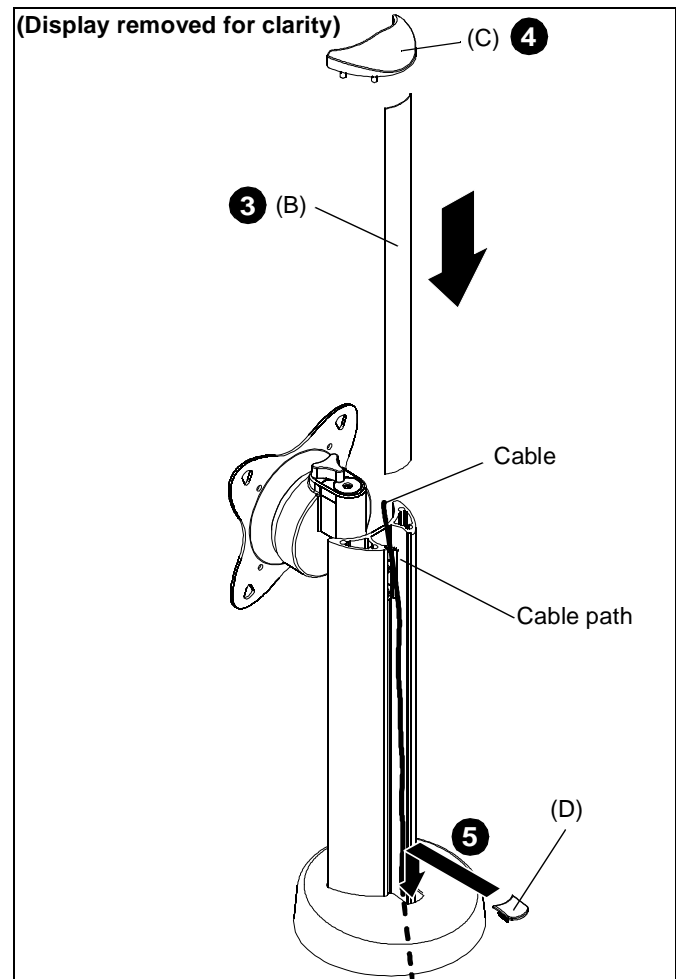

Figure 6
3. Add wire cover (B) to back of STS1 by sliding it into the STS1 through the top. (See Figure 6)
4. Add top cap (C) to top of STS1. (See Figure 6)
5. Add base cable plug (D) to STS1 base. (See Figure 6)